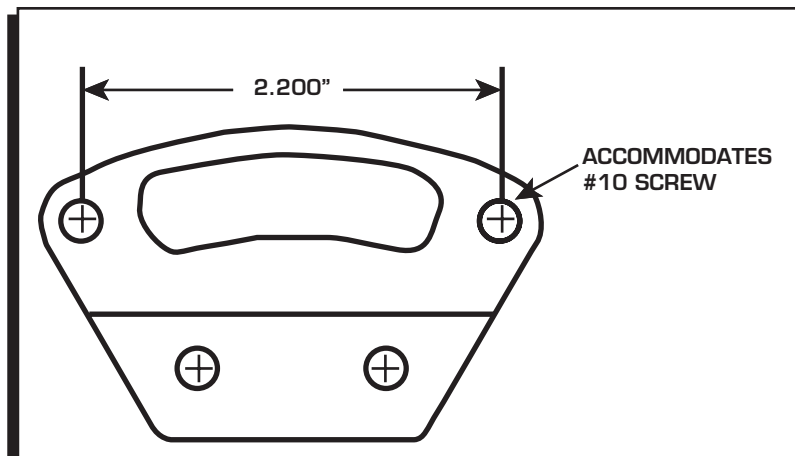

Figure 3 Regulator Mounting Bracket Template
Using the two (2) supplied 10-32 x 0.375 Button Head Cap Screws and a 1/8-inch hex key (Allen wrench), attach the regulator bracket to the regulator body. The regulator may then be mounted to the firewall, or other convenient surface. Regulator orientation is not critical, but be mindful of adjustment screw access and hose routing. Refer to Figure 3 for a mounting bracket template.